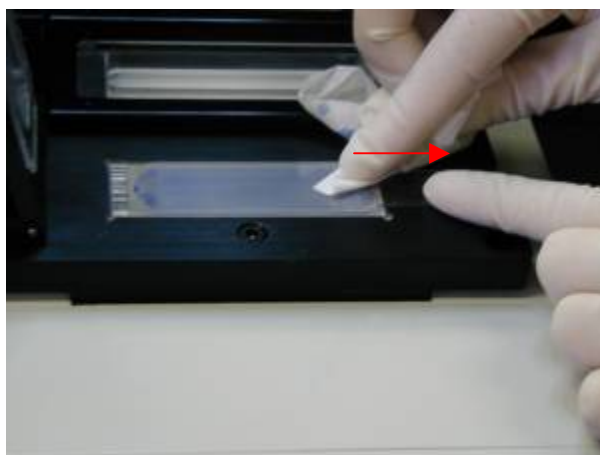

Figure 24: Drying Fill/Vent Ports
7. Gently use a tissue to completely wipe off any excess liquid that may remain around the fill or vent ports. Avoid excess wiping to prevent wicking from the ports. (Fig. 24)